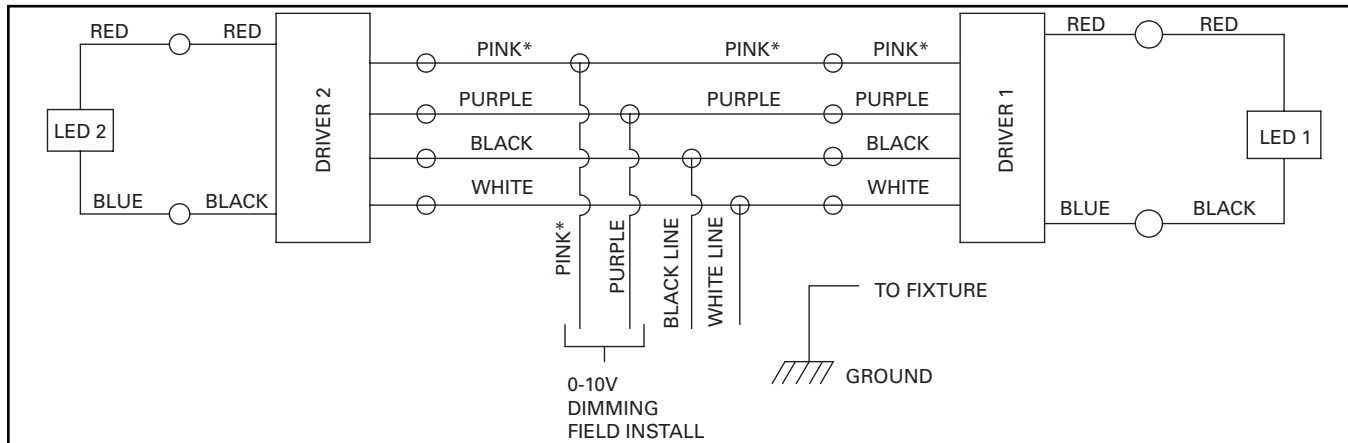

**Figure 6.**
4. Lift the orange tab on the lever nut to disengage the wire and close to secure the wire in place (Figure 6).